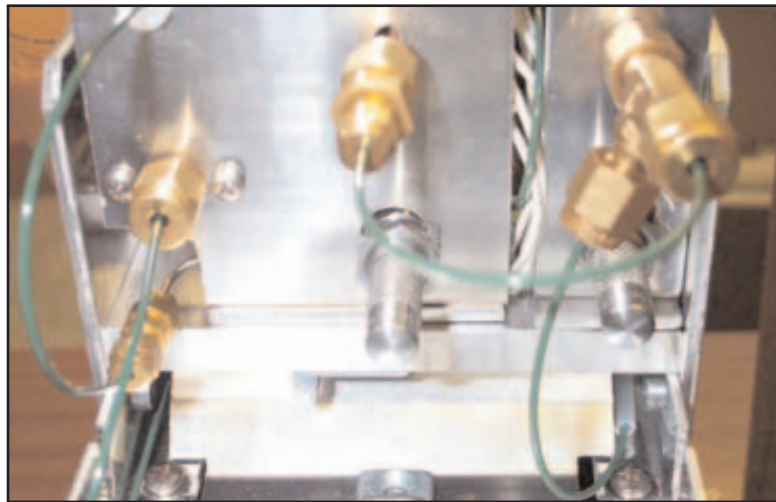
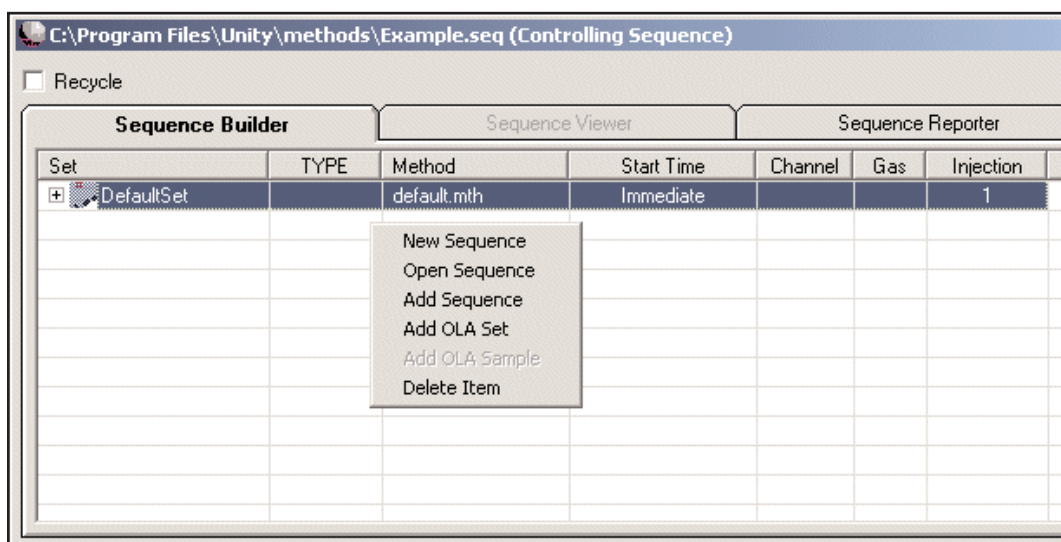

Figure 9. Pneumatics configured for Air Server operation (with T-piece on split vent and union on desorb vent)
Figure 14. Right clicking within the Sequence Builder section of the Automation Window brings up the contextual menu shown
- Re-configure the pneumatics from the set up in figure 9 to that shown in figure 10.
Sequences and sets are created and / or amended via the Automation Window which appears by default in Air Server mode (see figure 9). When the software is set up to run in Air Server mode for the first time, a default sequence with one set of ten runs is created. Right clicking with the mouse anywhere within the "**Sequence Builder**" section of the Automation Window will bring up the contextual menu for the sequence builder (figure 14).